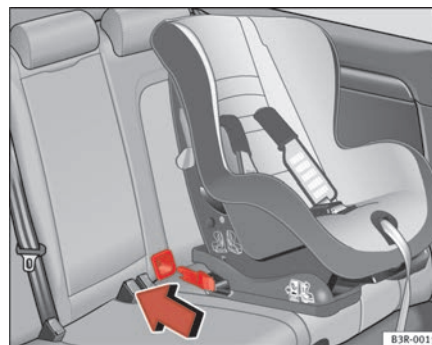

Fig. 33 The ISOFIX child seat anchorings slide along the fitted plastic guides until secured in the vehicle's ISOFIX anchorages
- Slide the child seat anchorings along the plastic guides until secured in the car's ISOFIX rings (when correctly closed, you will hear a “click” and the seat should also have a visual indicator to confirm it is correctly secured) ⇒ fig. 33.